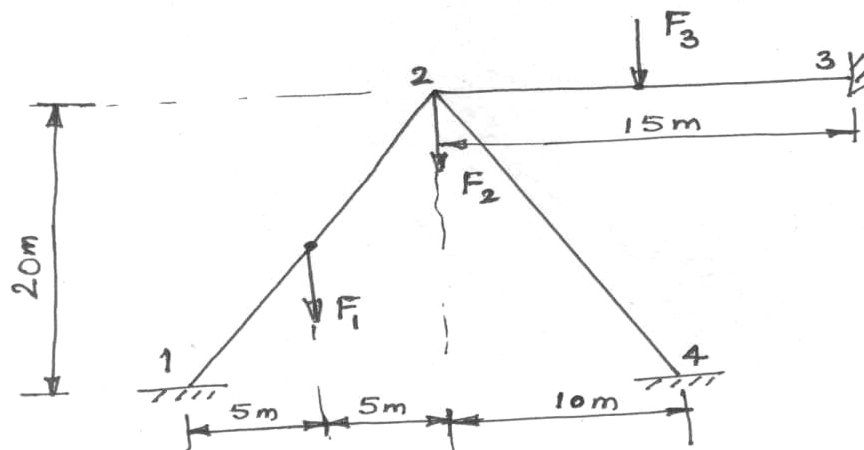

Fig. Q. 3
3. Evaluate the unknown displacements and rotations in the plane frame shown in **Fig. Q. 3**. Let $F_1 = 5000 \text{ N}$, $F_2 = 8000 \text{ N}$, $F_3 = 3000 \text{ N}$, $E = 207 \text{ GPa}$, $I = 5 \times 10^{-4} \text{ m}^4$ and $A = 5 \times 10^{-2} \text{ m}^2$. (10)